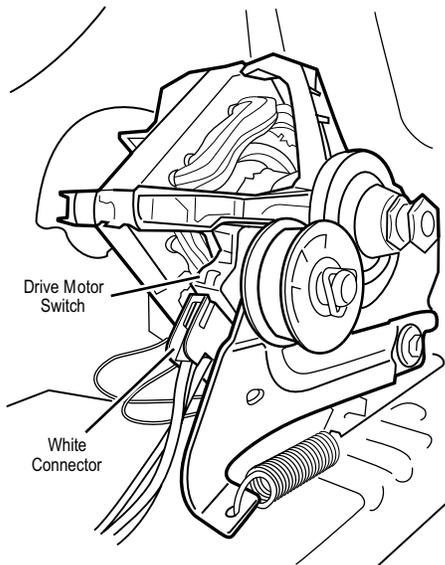

Figure 6. Remove white connector.
- Remove the white connector from the drive motor switch. See Figure 6.